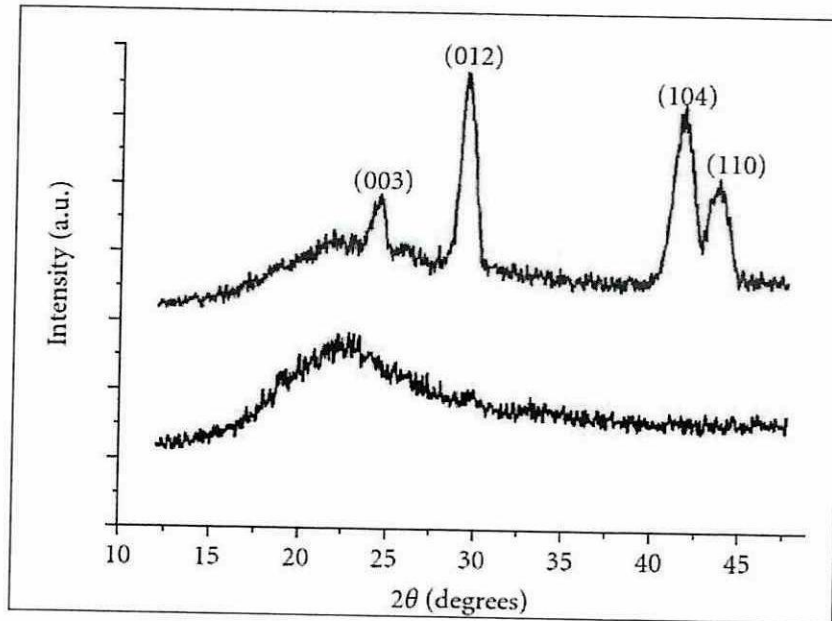

Figure Q5.1.
- (b) Interpret the XRD result as shown in **Figure Q5.1**. (4 marks)